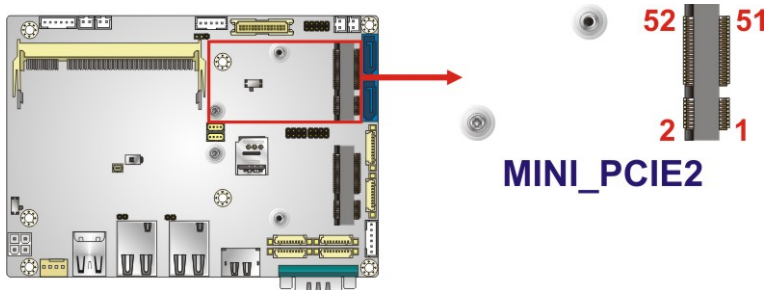

Figure 3-12: mSATA Module Slot Location
- CN Location:** See **Figure 3-12**